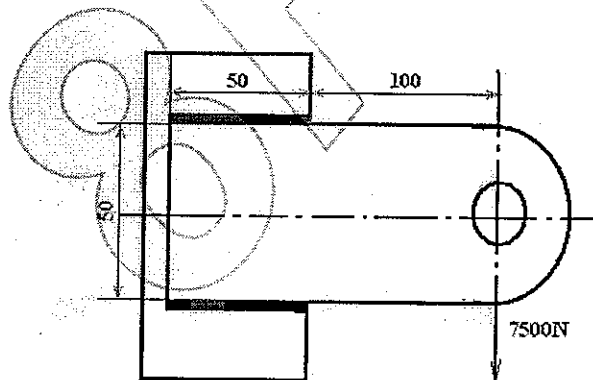

Figure: 1
- b) A welded connection as shown in the figure 1 is subjected to an eccentric force of 7.5kN. Determine the size of welds if the permissible shear stress for the weld is 100N/mm^2 . Assume static conditions.